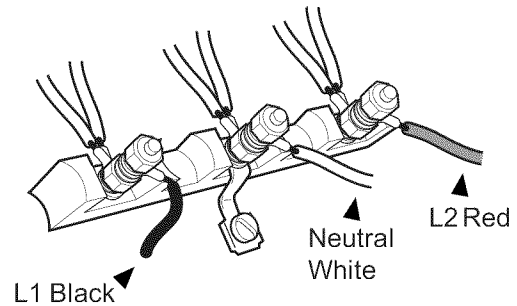

Figure 13: 3 Wire Connection
Wiring for the unit is to be brought into the junction box through the conduit. The ends of the wiring must have 1/4" faston closed-loop lugs attached, preferably soldered in place. Make the connections to the terminal block provided. Secure the ground lead to the junction box with the screw previously used to secure the ground strap. Refer to Figure 13. The free end of the
2. Secure the neutral, grounded wire of the supply circuit, to the center stud of the terminal block with nut. (See Figure 13).